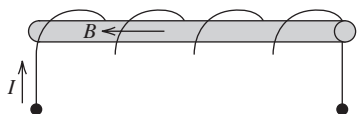

FIGURE P12.25 Magnetic circuit.
12.25 (B) A coil with 300 turns shown in Figure P12.25 has a flux of 3.2×10^{-4} Wb when $i = 0.5$ A. Compute the inductance of this coil.